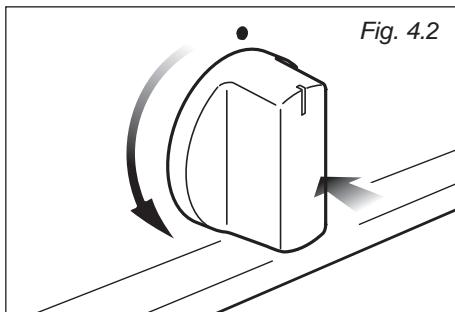

Fig. 4.2
- Lightly press and turn the thermostat knob anti-clockwise (fig. 4.2) to maximum position **Max**★ (fig. 4.1). Press the knob firmly until the burner lights.